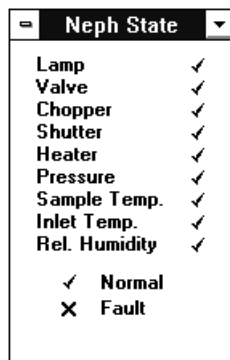

Figure 5-6
This display lets you view Nephelometer data as it is being collected, and the information displayed should resemble that shown in Figure 5-6.
2. Double-click on the **Neph State** icon (you don't need to close the Data Display window) to display the Neph State window, Figure 5-6.